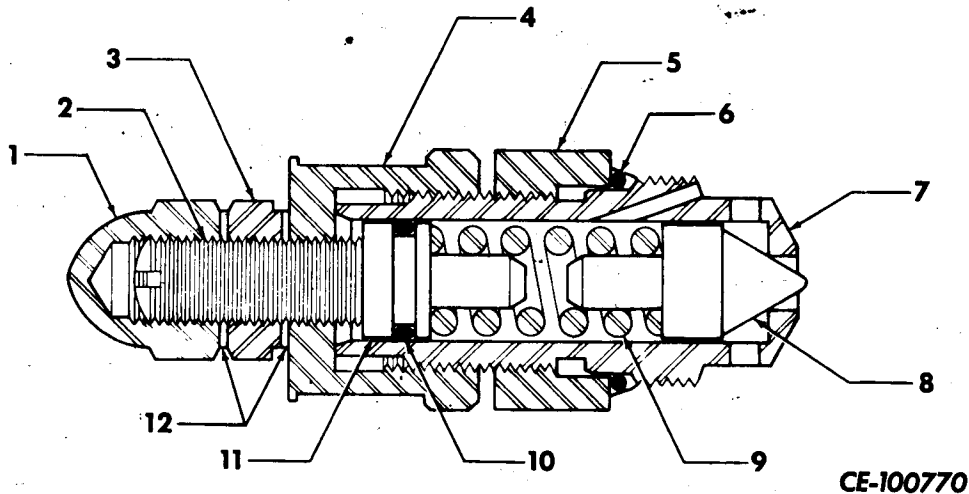

Figure 11-34
It is suggested that items 1, 2, 3, and 12 (Fig. 11-34) remain assembled on cap (4) to preserve original pressure setting.
Examine relief valve poppet face (8, Fig. 11-34) and corresponding seat in sleeve (7) for nicks or scratches. Seat must be sharp.
Assemble relief valve by installing new "O" ring (6, Fig. 11-34) on sleeve (7) and new "O" ring (10) on spring guide (11). Insert poppet (8), spring (9) and spring guide (11) into sleeve (7). Thread cap (4) with adjusting screw and associated parts intact onto sleeve (7). Back off nut (5) one complete turn, then thread valve assembly into plunger section until face of sleeve (7) is in firm contact with housing seat. Tighten lock nut (5) and cap (4) to torque recommended in "SPECIAL TORQUES."